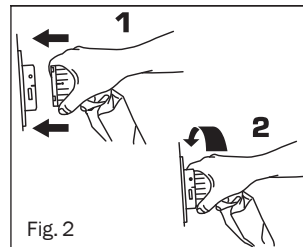

Fig. 2
5. Attach the air supply hose to the power unit by aligning the black line on the air supply hose connector with the black line on the power unit connector and pushing together. Rotate the mattress hose connector clockwise until the green indicator fills the indicator hole on the power unit connector (Fig. 2).